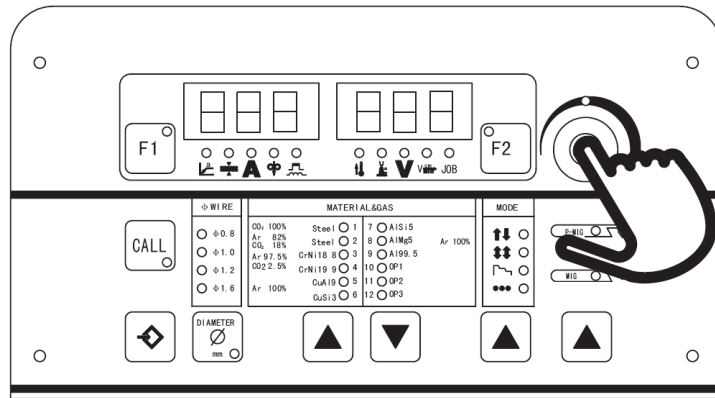

Fig. 4-8-4: Restore the factory setting
Press adjustment dial (1) for about 3 seconds, it comes back to factory setting (see Fig. 4-8-4). All indicators on panel light up.